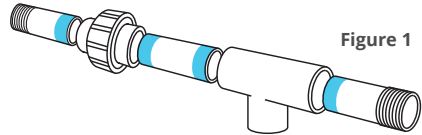

Figure 1
1. Using PVC primer and glue, assemble the piping as shown to the right (Figure 1), applying primer and glue. Ensure enough glue cure time before running water through the system.